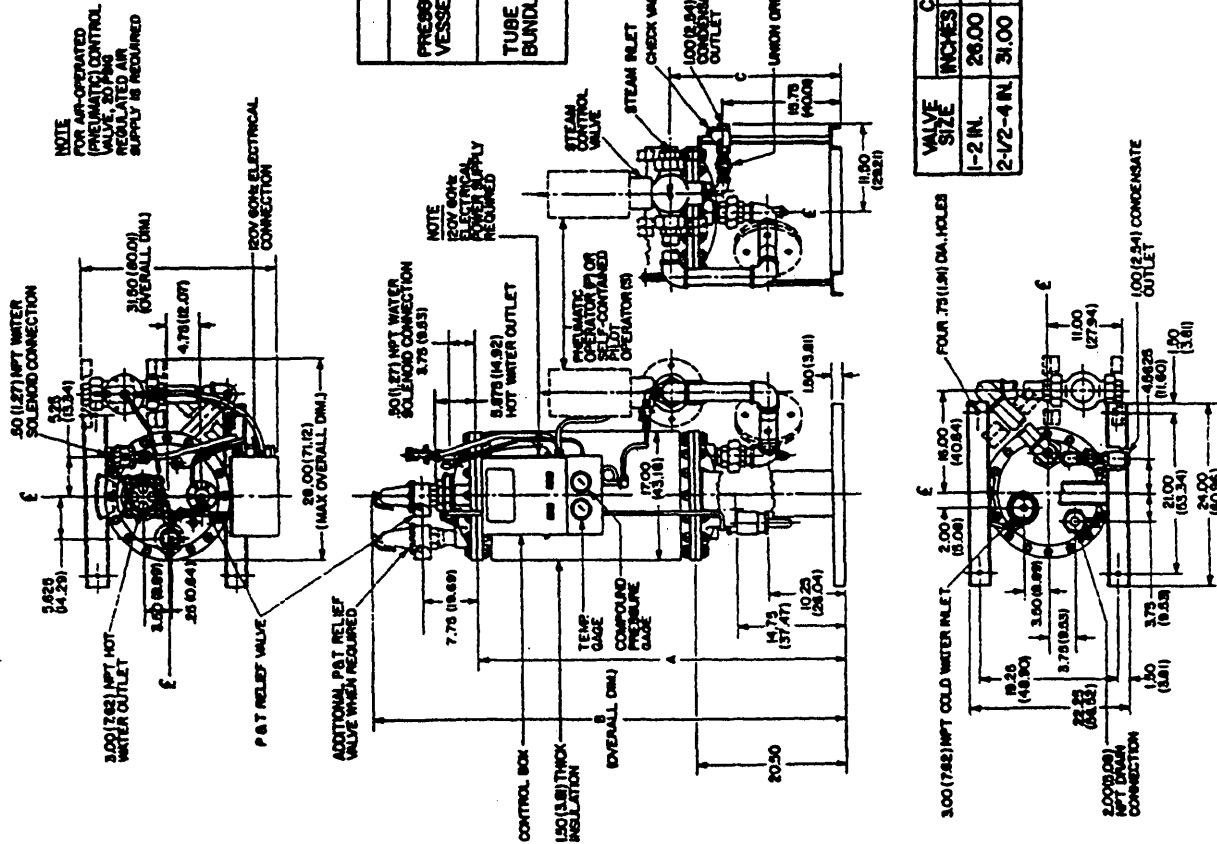

Figure HE-104-1 -- Dimensions for AERCO Helitherm Heat Exchanger (Packaged Water Heater), Model SWIB-PLUS
Accessories included in the AERCO B-Plus Heat Exchanger Package Assembly are (see Figures HE-104-1, HE-104-9, HE-104-15, HE-104-17, and HE-104-18):
Pressure & Temperature Relief Valve(s) -- size and number furnished as required in accordance with the design Btu output of the Heater -- first two located in the Heater Top Head as shown in Figure HE-104-1; third, if furnished, to be installed in the hot water outlet piping by the user as shown in Figure HE-104-6
Union Orifice -- located in Condensate Outlet (see Figure HE-104-1) -- required in place of a steam trap to insure complete condensation of steam within the Heater
1. Dimensions for an AERCO Heat Exchanger (Heater) Model SW1B-Plus are shown in Figure HE-104-1.
3. If possible, for easy in-place maintenance, locate the Heater where there is at least 2 feet clearance all around the Heater and where the head room clearance from the top of dimension B in Figure HE-104-1 is at least equal to dimension A for the Heater Model less 24 inches.
- b. For Heater connection types, sizes, and exact locations, see Figure HE-104-1.